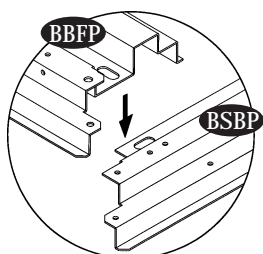

Fig.1
8. Place the base bar (BBFP) on top of (BSBP) on both sides. Secure with (S7) screw to (BSBP) on both corners. See fig. 1 & 2.